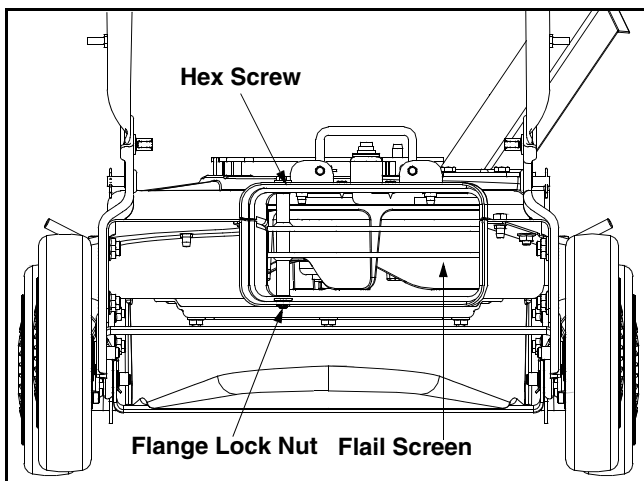

Figure 10
- Remove hex screw on top of rear housing mounting bracket and the flange lock nut that secures the flail screen. See Figure 10.